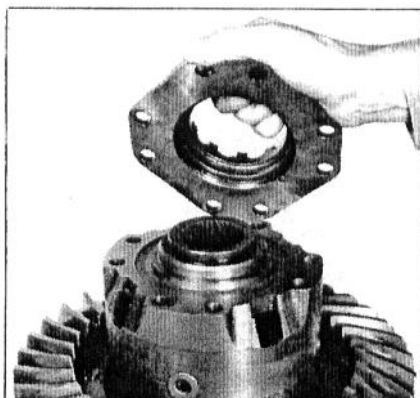

Fig. 68 - Differential Lock Coupler Cap Removal or Installation
4. Remove the differential lock coupler cap, or bearing adapter, as shown in Figs. 68 or 69.
7. Install the differential lock coupler cap, (or differential adapter on non-diff. lock models). See Figs. 68 or 69.